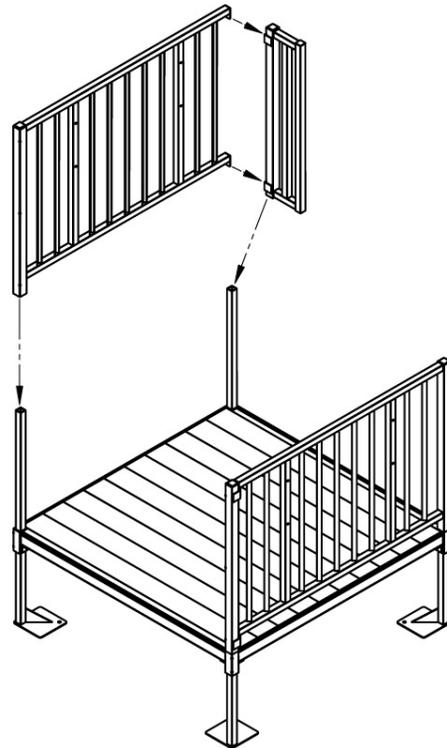

FIG. 2
- 2.2.1.1 If the filler section is at 90° to a platform guard (FIG 2.) the tab brackets should point toward the guard and the tabs on the platform guard installed into the tab brackets as shown in the Titan Series Commercial Ramp manual.